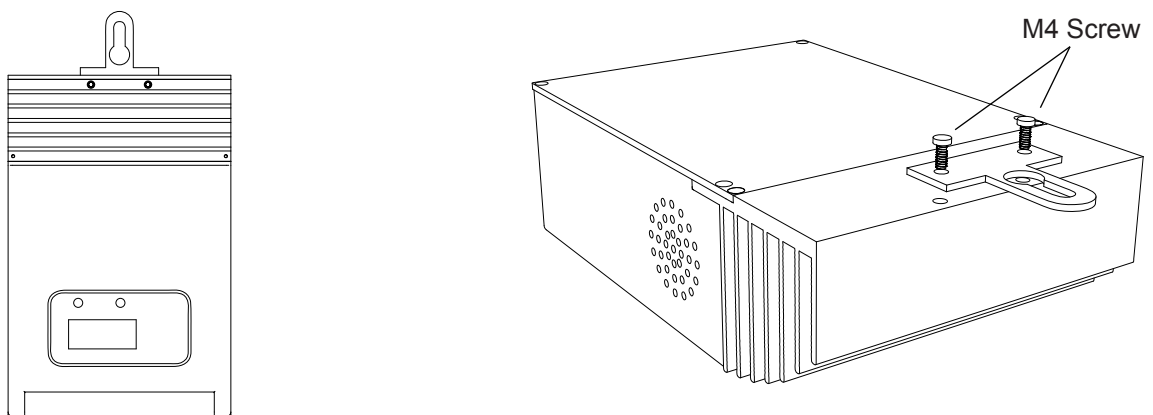

Figure 3-1. Attaching the mounting hanger
1. Attach the mounting hanger to the bottom of the Masspower MPPT with the M6 screw provided as shown in figure 3-1.